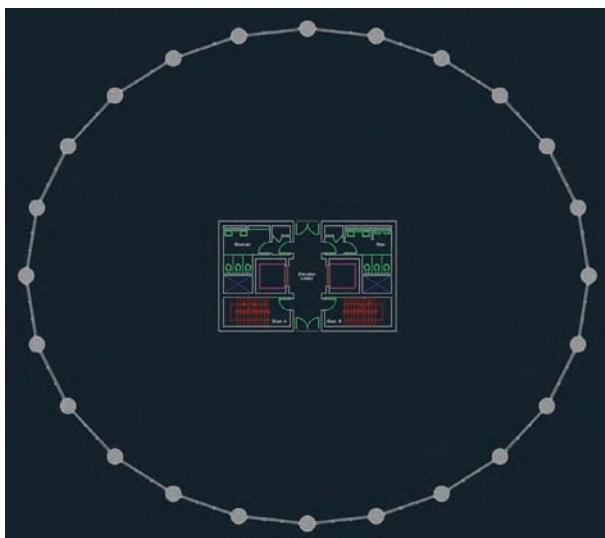
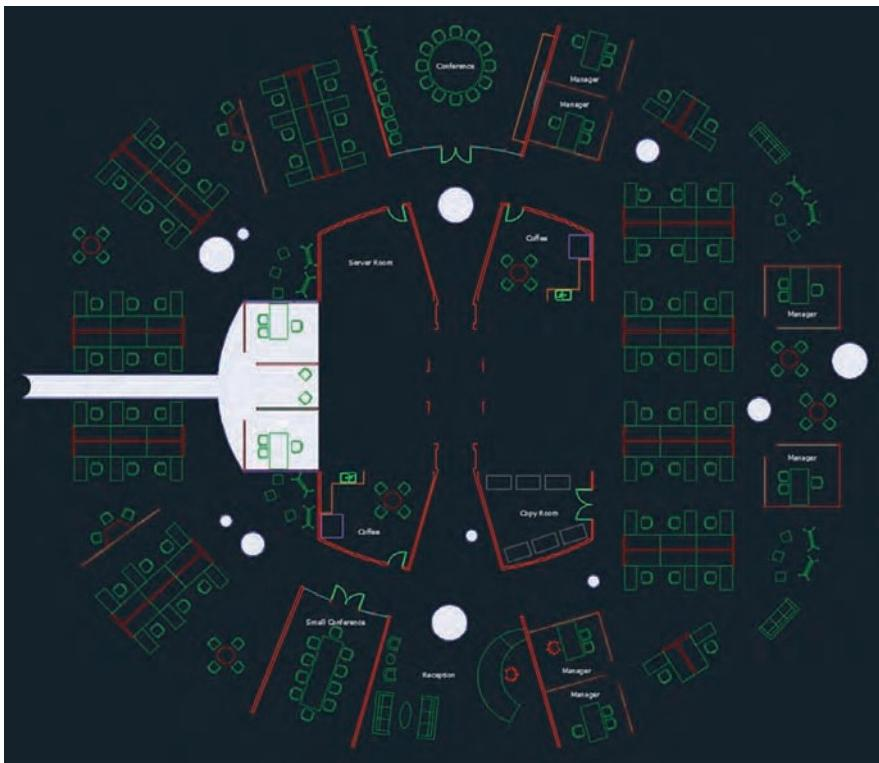

FIGURE 9.25 Core and shell drawing
FIGURE 9.26 Tenant improvement floor plan
1. Return to the book's web page, browse to Chapter 9, get the files Ex09-CoreShell.dwg and Ex09-Tenant.dwg, and open them. Figure 9.25 shows the building core and shell. Figure 9.26 shows the objects owned by the tenant.